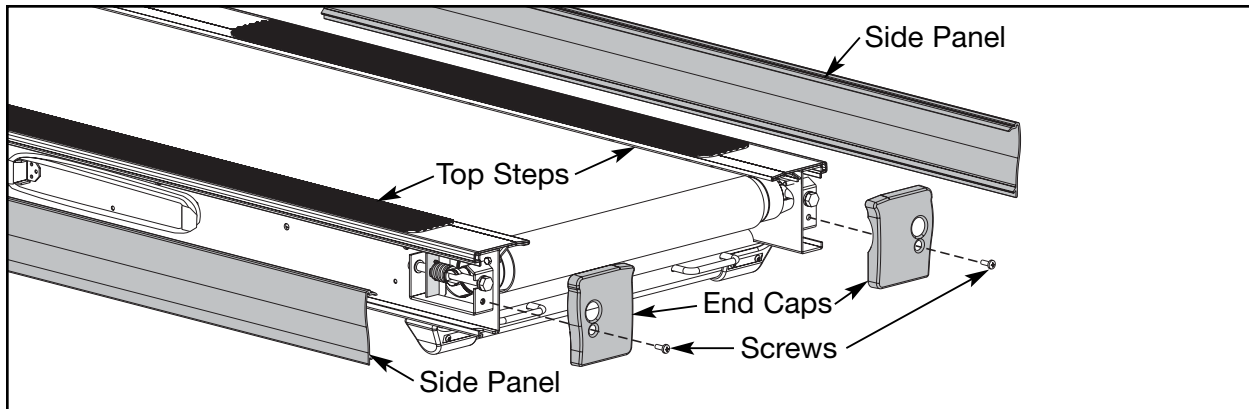

Figure 3
- A.** Using a Phillips head screwdriver, remove the screw that holds each end cap in place. See Figure 3.
- A.** Pull each side panel out and off the treadmill. See Figure 3.
- B.** Grasp each top step and lift it out and off the treadmill. See Figures 3 and 4.
- A. Using a Phillips head screwdriver, tighten the screw securing each end cap in place. See Figure 3.
- A. Place each side panel into position slightly under the end cap and use your hand to push all along the bottom edge of the side panel to snap it in place. See Figure 3.